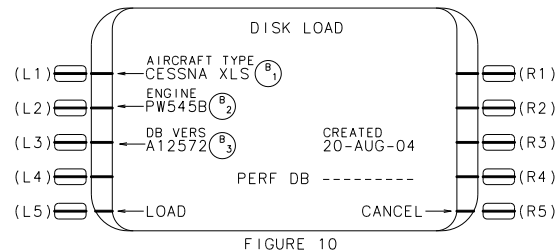
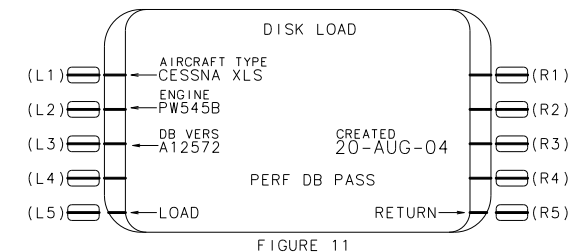

FIGURE 10
FIGURE 11
- A DISK LOAD PAGE SIMILAR TO THE ONE IN FIGURE 10 WILL APPEAR.
- VERIFY THAT THE A/C SPECIFIC DATA SHOWN ON THE DISK LOAD PAGE APPEARS AS SHOWN IN FIGURE 10.
- PRESS LOAD LSK (REF FIGURE 10). AFTER DISK HAS SUCCESSFULLY LOADED, PERF DB PASS WILL APPEAR ON THE DISK LOAD PAGE (REF FIGURE 11).